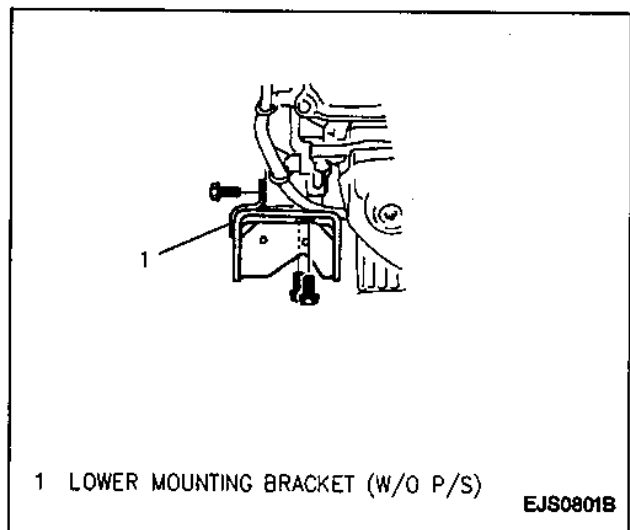

Figure 20—Compressor Lower Mounting Bracket (without Power Steering)
Figures 20 and 21
2. Three compressor lower mounting bracket bolts and bracket from vehicle (Figures 20 or 21).